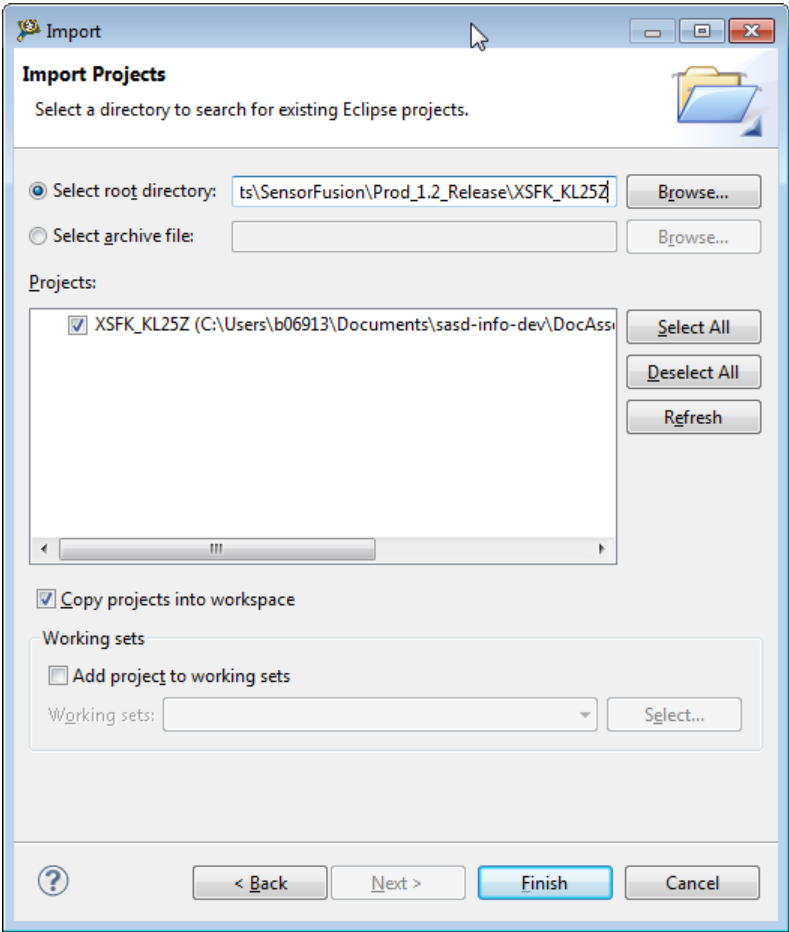

Figure 11. Import Projects window
5. Click **Next**. In the Import Window that appears, navigate to the folder containing the CodeWarrior project, and select it. See Figure 11.